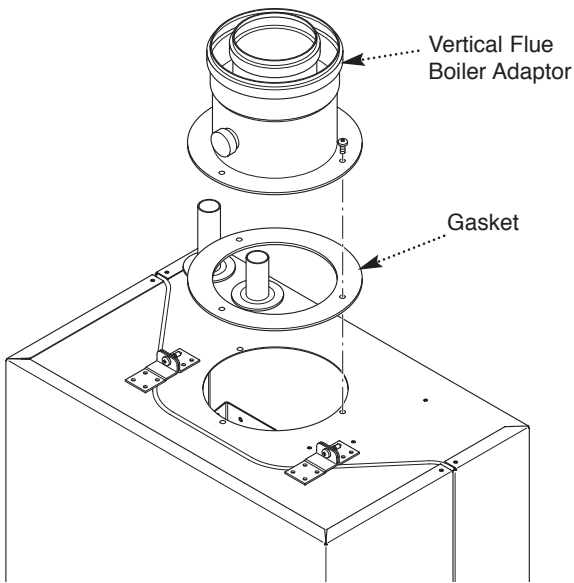

Fig. 11
3.8.5 Vertical Flue Duct Adaptor (Fig. 11)